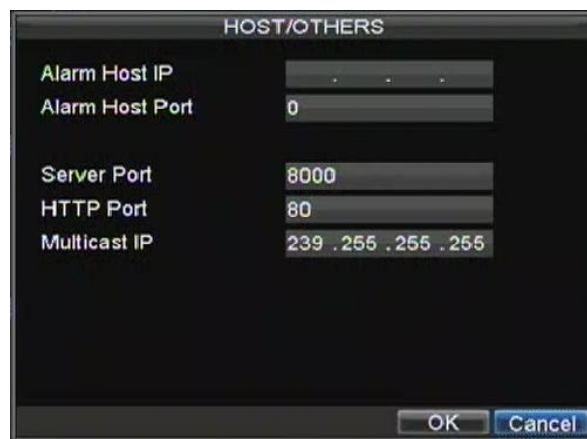

Figure 10. Host/Others Menu
4. Set **Multicast IP**, as shown in Figure 10. When adding a device to the CCTV Window software, the multicast address must be the same as the DVR's multicast IP.